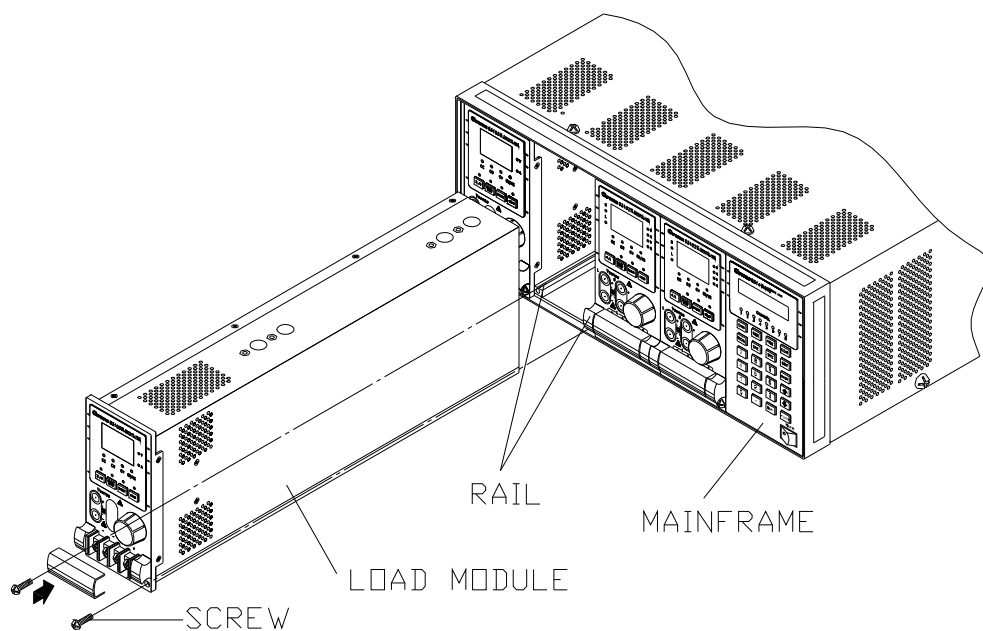

Figure 2-1 Installing Modules in the Electronic Load
3. Start to install the modules in the slot (see Figure 2-1).
5. Secure the module in place with screwdriver (see Figure 2-1).